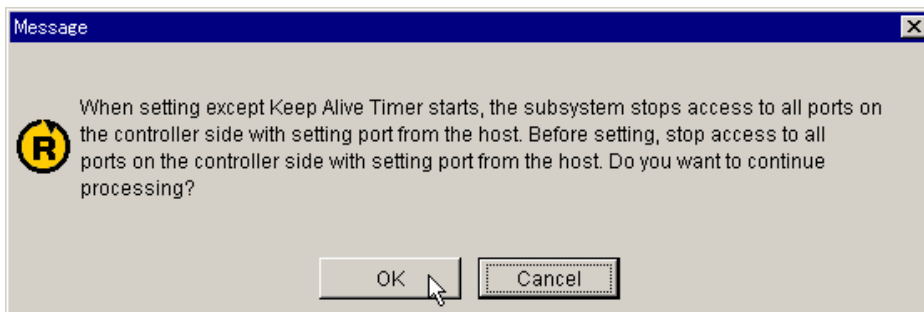

Figure 5.49 Stop Host Access Warning Message
5. The **Stop Host Access** warning message displays (see Figure 5.49). Stop host I/O access, and then click **OK** to continue.